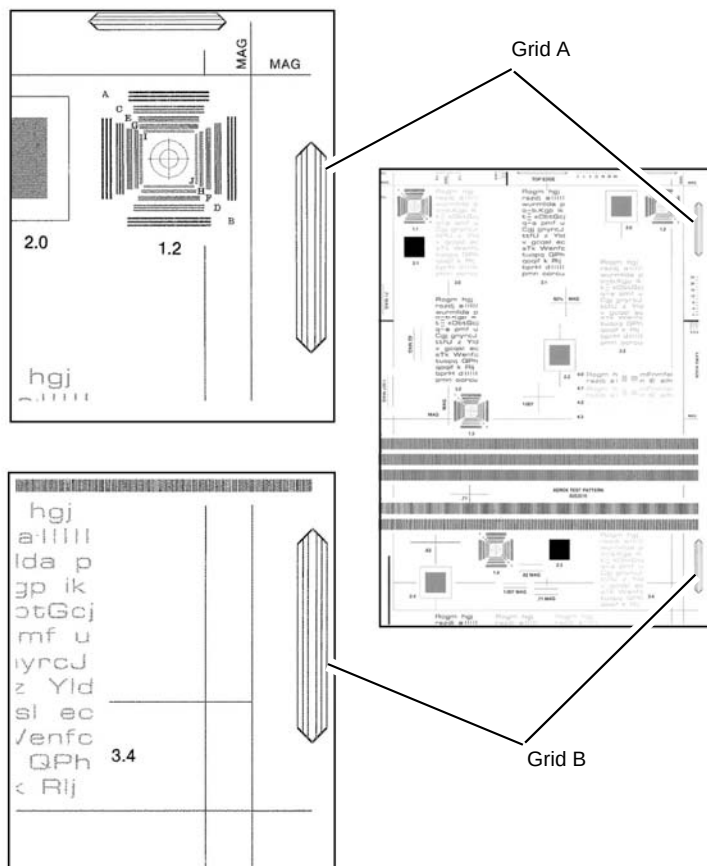

Figure 1 Test pattern
3. Use the grids A and B on the copy, Figure 1, measure the lead edge displacement. Check that the lead edge registration error is within +/- 1.6 mm (0.063 inch). The displacement measured at A and B should be equal.
3. Use the grids A and B on the copy, Figure 1, measure the lead edge displacement. Check that the lead edge registration error is within +/- 2.0 mm (0.079 inch).